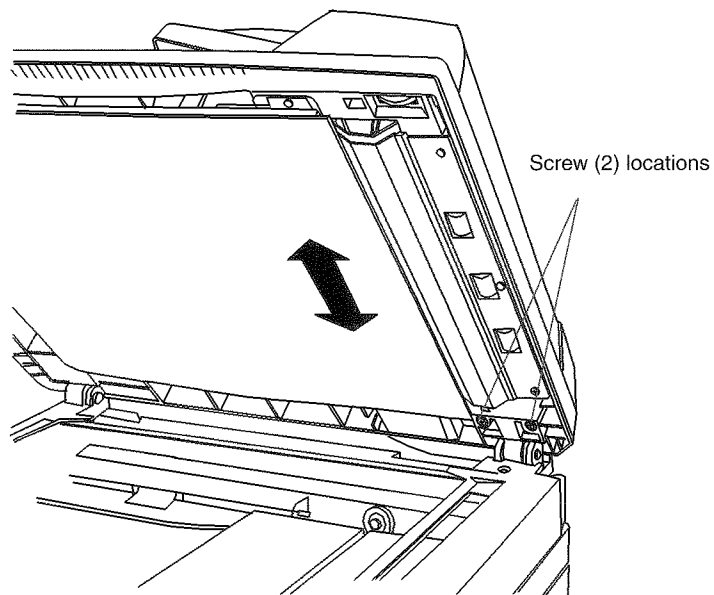

Figure 1 Adjusting SDF/DSDF skew
1. (Figure 1): Open the SDF/DSDF Assembly and locate the two screws that secure the assembly to the right hinge.